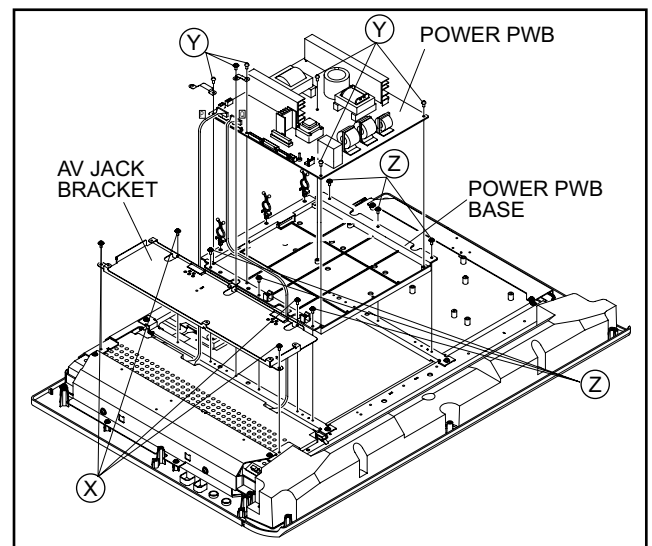

Fig.3-1-8
3.1.8 REMOVING THE POWER PWB (Fig.3-1-8)